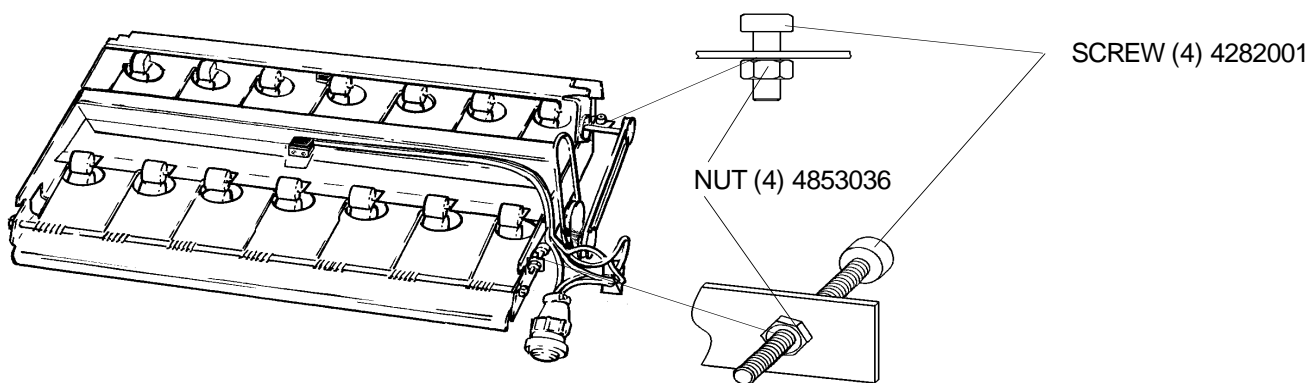

figure 12
22. Measure and record the adjusted length of SCREWS. Remove and discard SCREWS and NUTS. Install SCREWS 4282011 with NUT 4853036 to the recorded length. See figure 12.